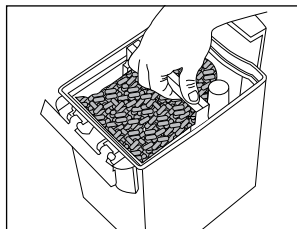

fig 12
- Take out the material containers, in which some filtering materials are still sealed (fig. 12).